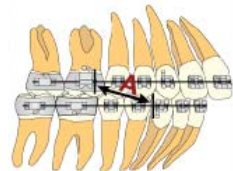

Figure 3.
- b. Measure from the distal edge of the lower cuspid bracket to the mesial end of the upper 1st upper molar tube (Figure 3).
- c. See the chart below for measurement ranges (A) and part numbers.